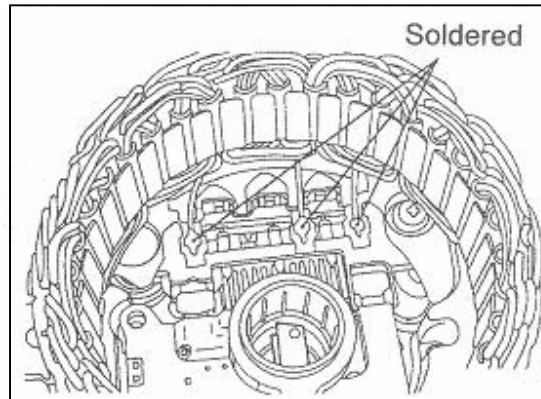

Fig. 9-36
(3) Stator/regulator Removal (see Fig.9-36)